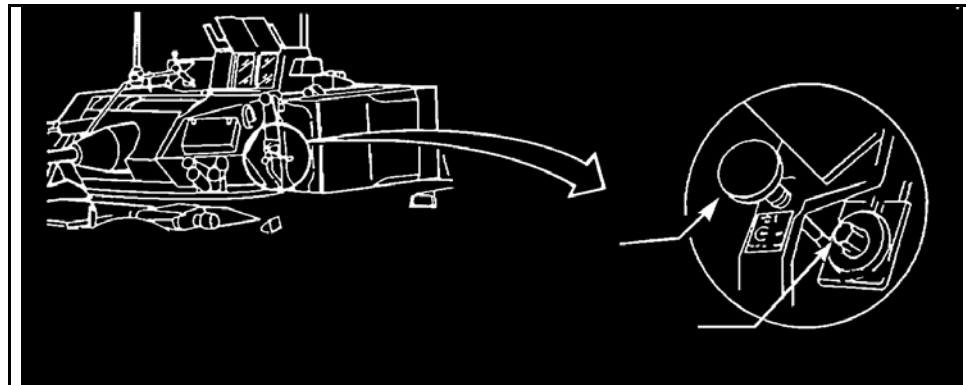

Figure 7. TOW manual lift drive shaft.
f. Raise the TOW launcher to the firing position by using the 14-mm ratchet wrench on the TOW manual lift drive shaft by turning clockwise until the launcher is fully elevated and the TOW light comes on (Figure 7).